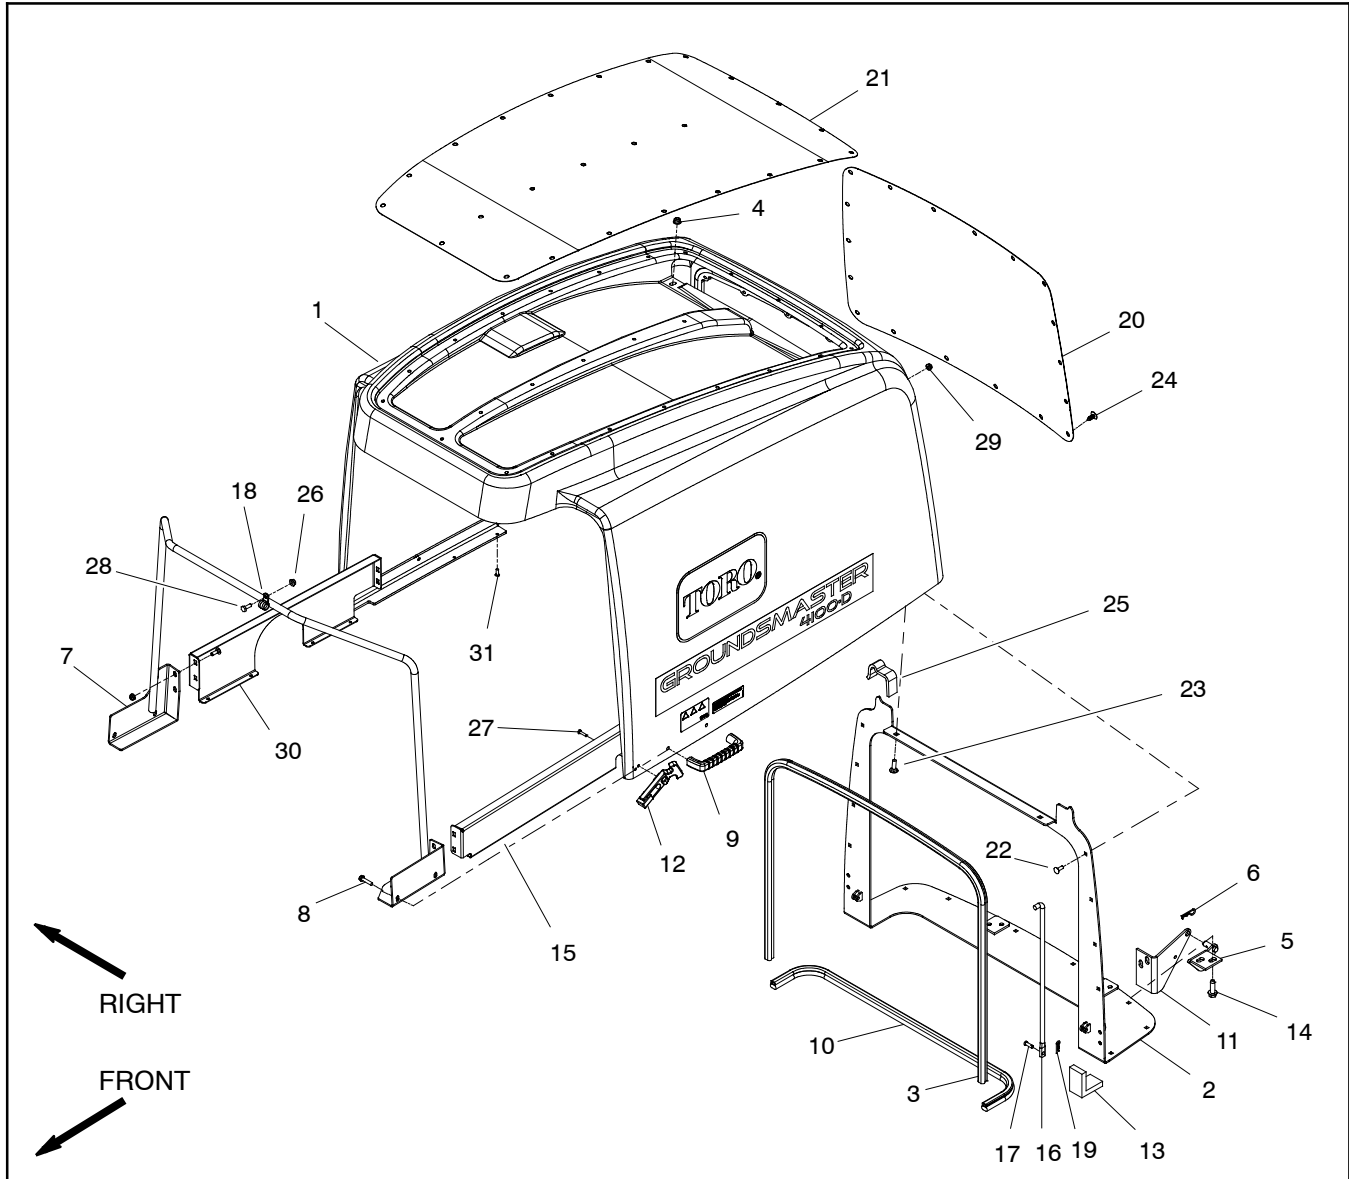
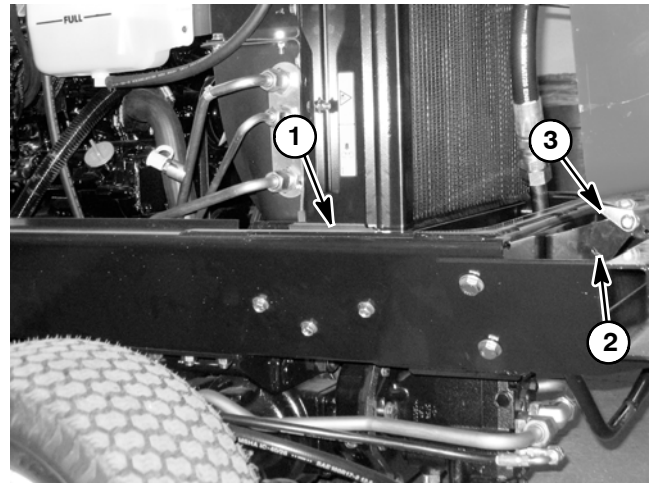

Figure 25
Figure 26
- A. Remove hair pins (item 6) that retain screen pivots to hood pivots.
3. Disassemble hood as needed using Figure 25 as a guide.
1. Assemble hood using Figure 25 as a guide.
- B. Install hair pins (item 6) to secure screen pivots to hood pivots.
- A. Place shim that is from 3/8" to 7/16" (9.5 to 11.1 mm) thick on top of frame (both RH and LH sides) near the sides of radiator/oil cooler (Figs. 26 and 27).